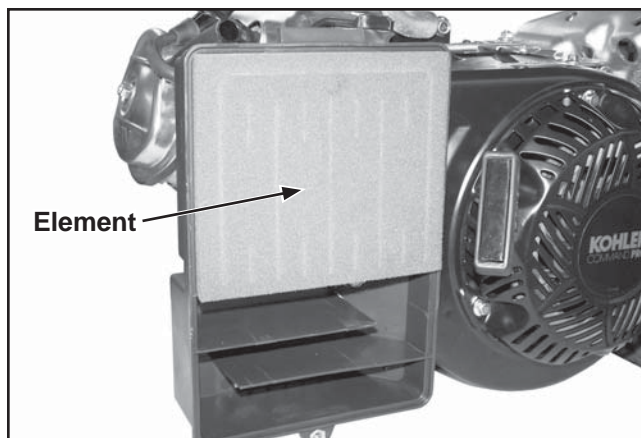

Figure 11-91. Install Foam Element.
1. Place the foam element in the air cleaner base. See Figure 11-91.